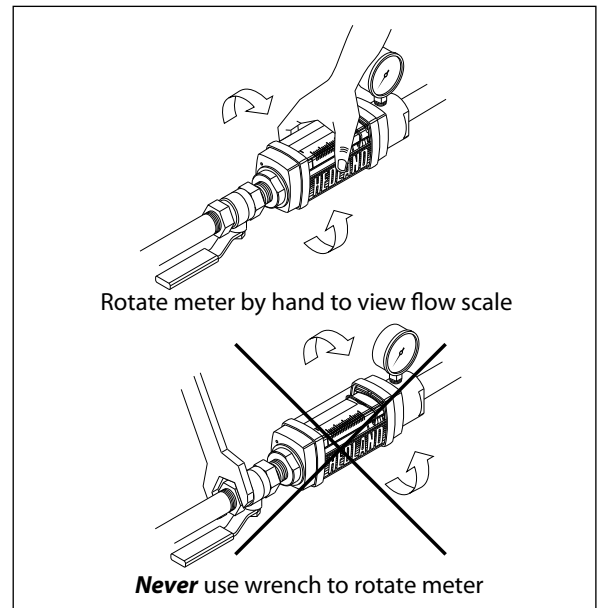

Figure 7. Rotating Test Kit
3. After installation, rotate meter by hand to view flow scale. See **Figure 7**.